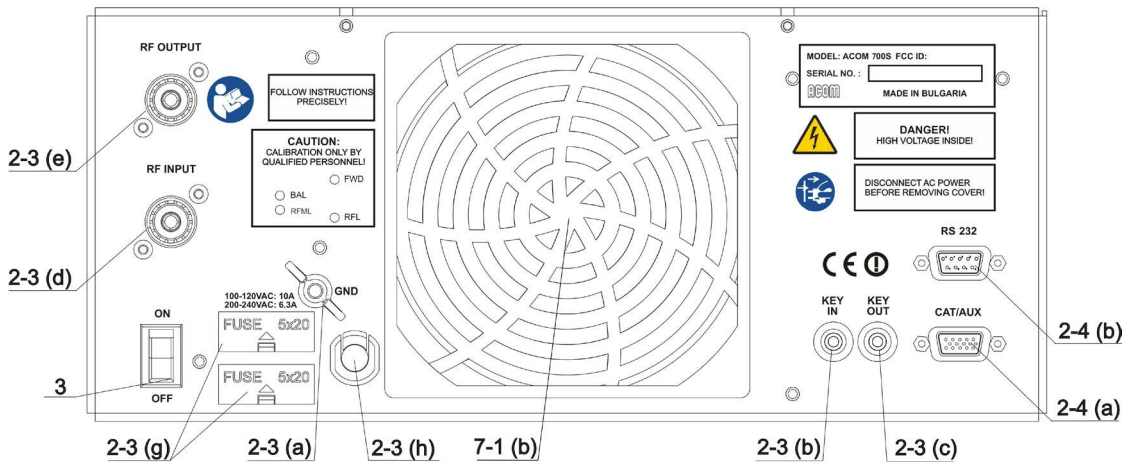

Fig. 2-1 Rear panel connections
The ACOM 700S linear amplifier is a Class I apparatus regarding protection against electric shock, i.e. the third grounding lead of its mains cord (colored yellow with two green stripes) and the grounding stud on the rear panel, marked GND (Fig. 2-1), must be connected to the grounding system of the shack for safe operation.
- a) GND stud - First connect the grounding stud of the amplifier (located on the rear panel and marked GND – Fig. 2-1) to the grounding system of the shack.
Run a shielded cable from the output of your transceiver, providing “ground on transmit”, to the KEY-IN input on the amplifier rear panel (RCA (PHONO) jack – Fig. 2-1). Use a standard RCA (PHONO) plug for connection to the amplifier.